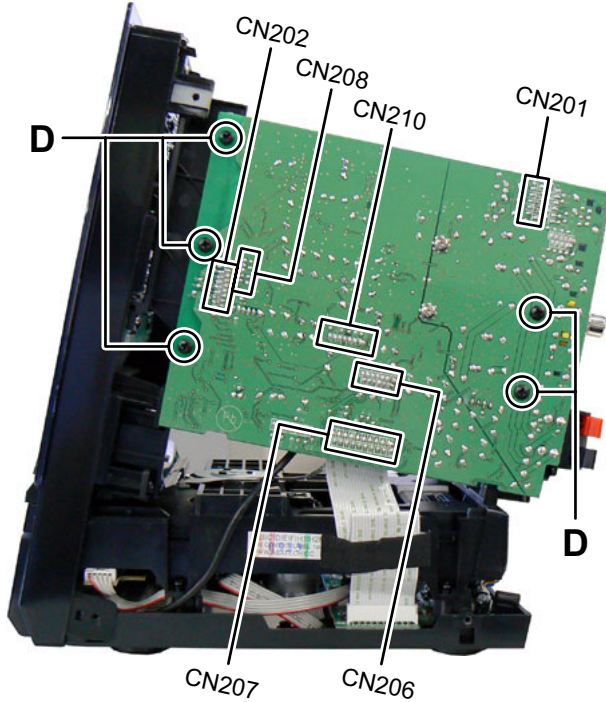

Fig.4
3.1.3 Removing the MCU board (See Fig.4)